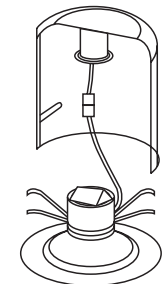

Figure 4.4
8. Squeeze the torsion spring clips together and install into spring clip brackets inside CAN (Fig 4.4).